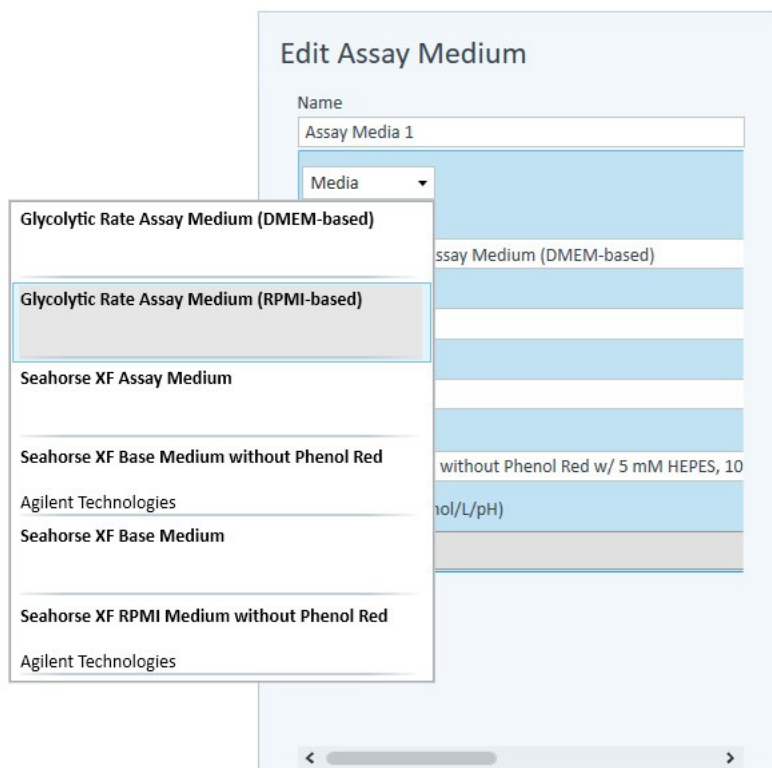

Figure 111. Assay medium media menu
- 4 To select the assay medium, use the **Media** catalog drop-down menu. (See Figure 111.)